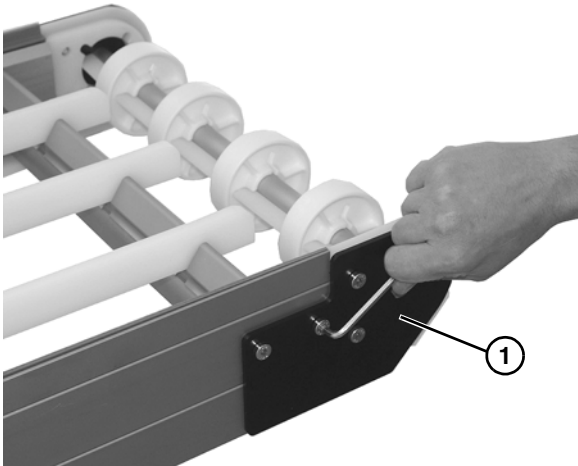

Figure 29
1. Remove conveyor idler end (**Figure 29, item 1**). See “C - Idler Spindle Removal” on page 21.